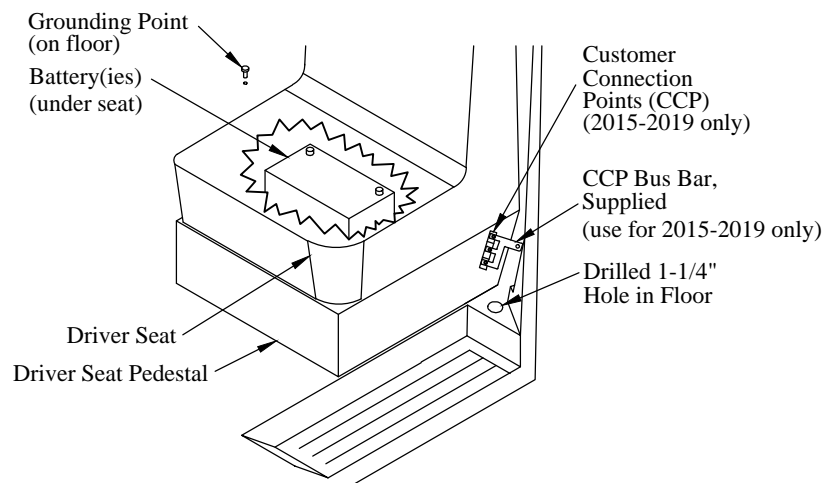

Figure 11: Power connection locations.
3. **Drill** and **Deburr** a 1-1/4" hole in the floor next to the driver seat in the location shown (Figure 11).
4. **Route** the power cables under the vehicle from the liftgate, along the frame, to a location under the driver door (Figure 11).
9. **Cut** the negative(-) lead to the length required to reach a vehicle ground point on the floor between the front seats (Figure 11).
11. **Connect** the negative(-) lead to a vehicle ground point on the floor between the front seats. (Figure 11).
18. **Remove** the plastic cover from the CCP on the driver seat pedestal (Figure 11).
19. **Install** the supplied bus bar on the CCP studs using three (3) supplied M5 nuts and star washers.